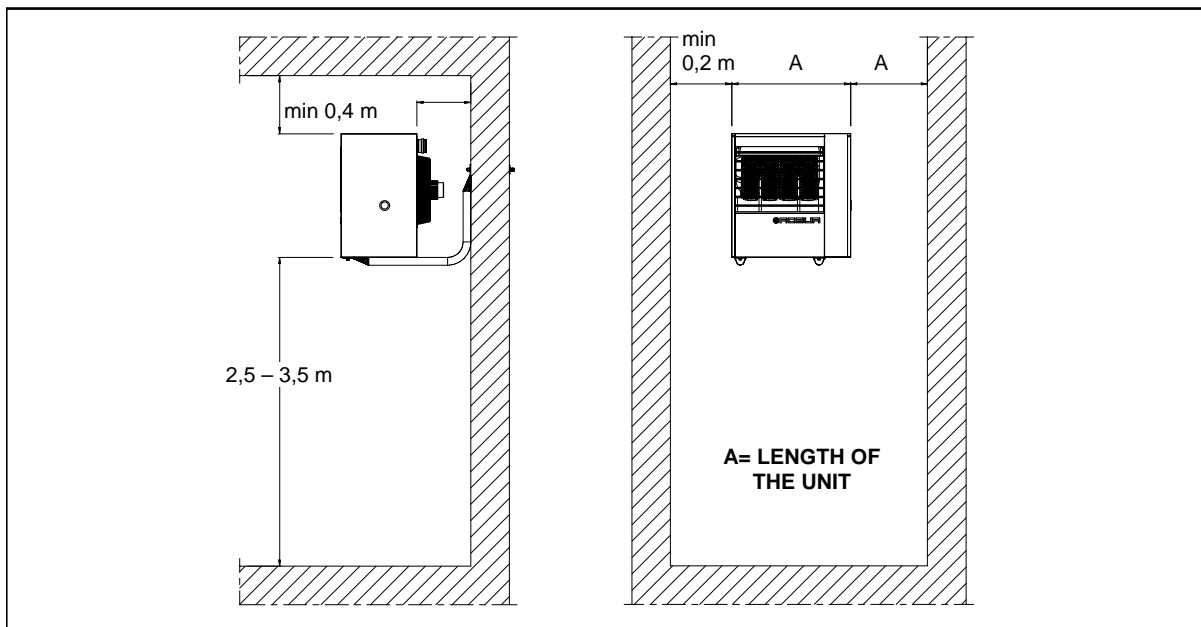

Figure 3
- The minimum distance from the wall behind the unit must be enough for air circulation. The minimum distance from the lateral walls is given by Figure 3.